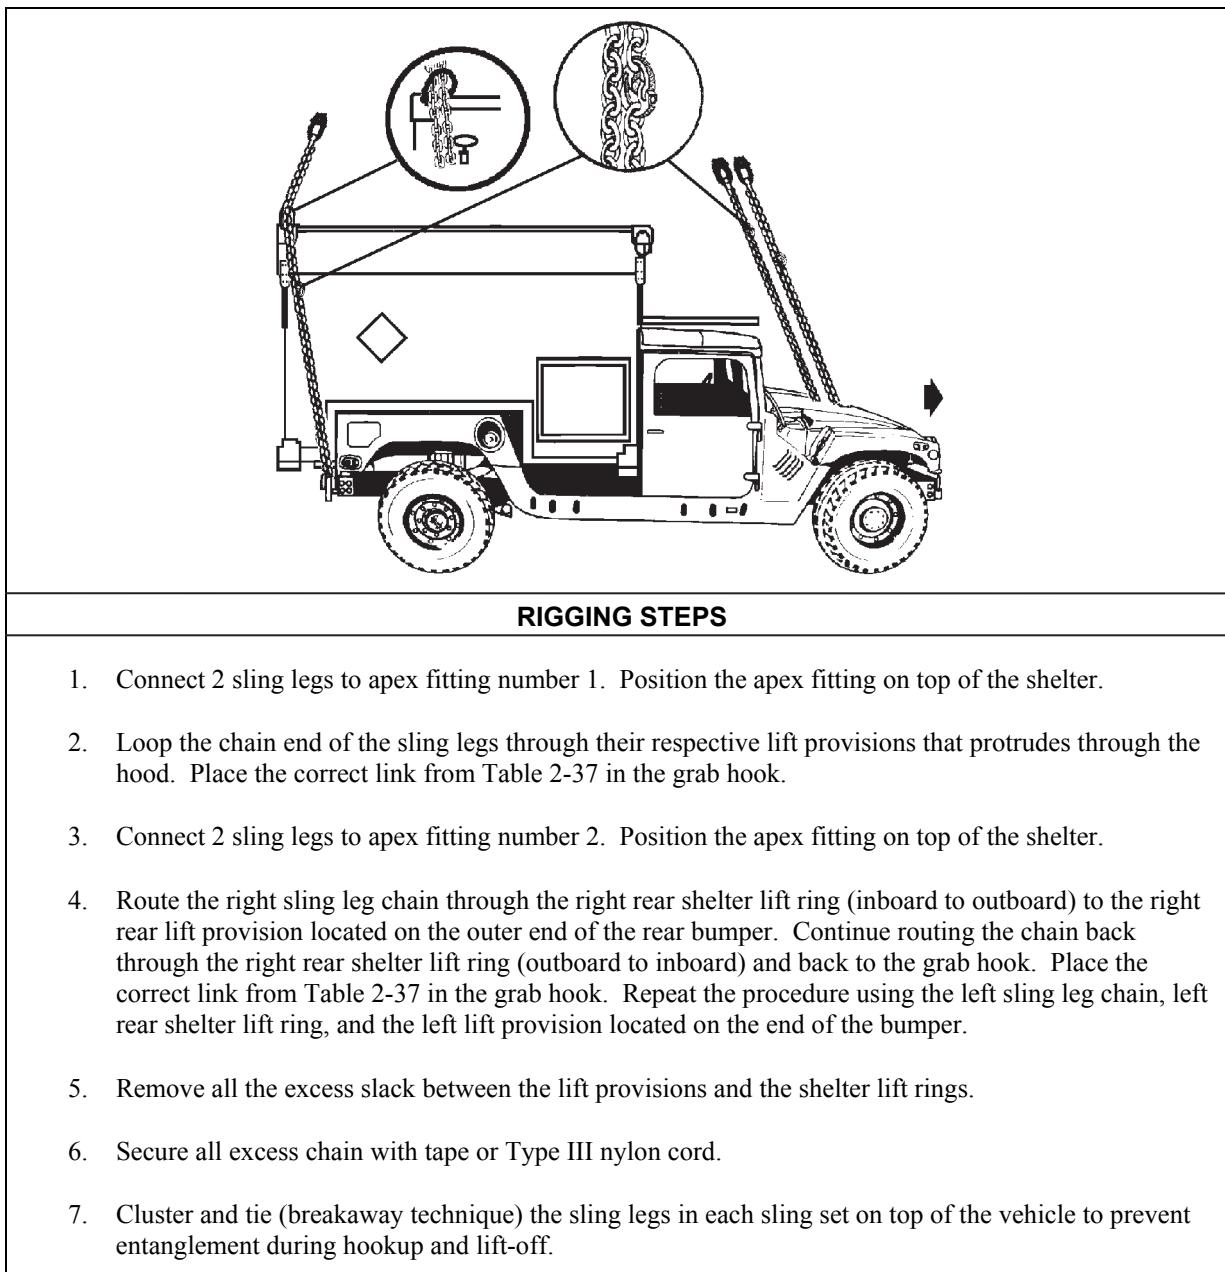

Figure 2-36. M1113 with Petroleum Quality Analysis System Shelter
- **Rigging.** Rig the load according to the steps in Figure 2-36.